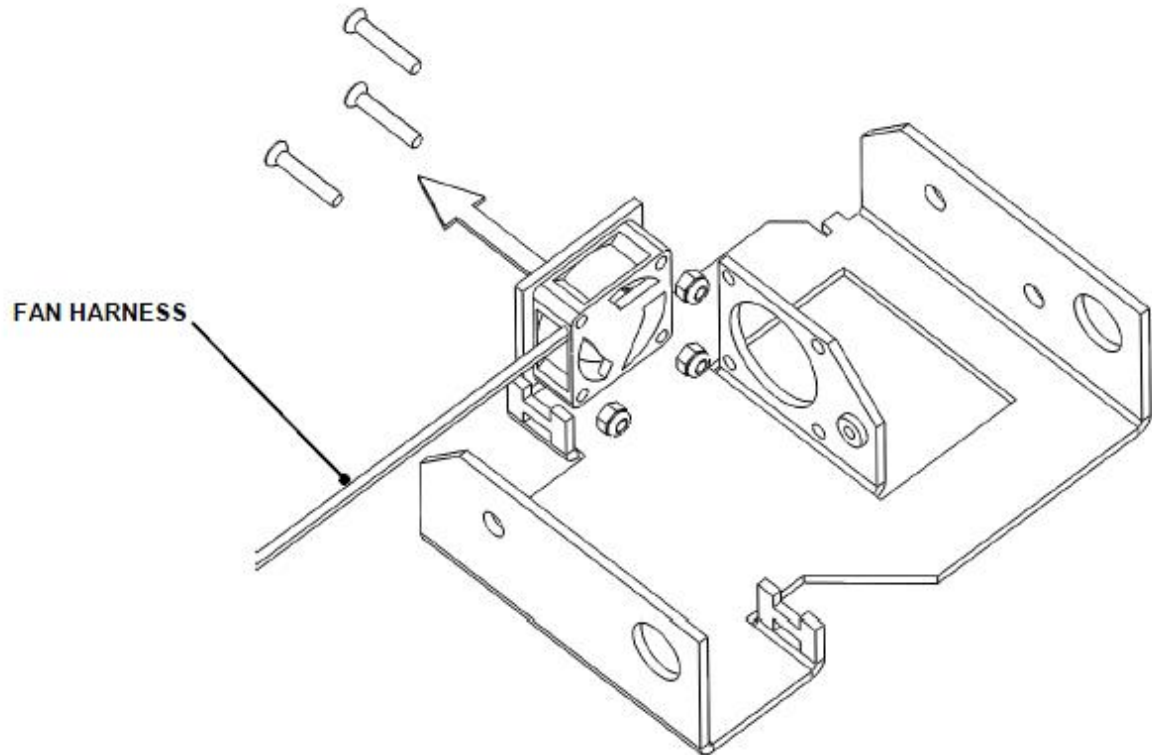

Figure I-5: Fan
The fan is located on the driver chassis (Figure I-5) using three M2.5x 16 Posi Flathead screws, three M2.5 Washers and three Nyloc Hex Nuts.
3. Secure a the new fan to the Driver Chassis (using three M2.5x16 Posi Head Flathead Screws (30100180), three M2.5 Washers and three M2.5 Nyloc Hex Nuts (Leave the hole nearest the harness empty, as shown in Figure I-5). Ensure the fan is oriented as shown and the air flow is in the same direction as that of the arrow.